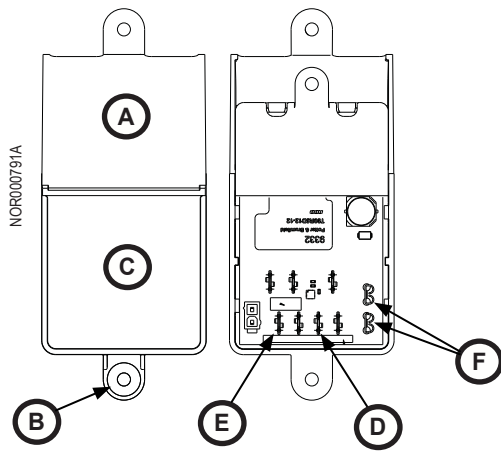

Fig. 3 - DC Board Assembly
- Remove cover screw (1x) (Fig. 3, B) from DC control board assembly (Fig. 3, A) and flip up cover (Fig. 3, C). Set screw aside.
- Disconnect +12VDC RV supply wire from terminal 12VDC (Fig. 3, D) of the DC board assembly.
- Disconnect the 12VDC ground wire (Fig. 3, E) from terminal GND of the DC board assembly.
10. On 3-way models, disconnect the DC heater wires from terminals DC\_HTR and HTR\_GND (Fig.3, F) of the DC board assembly.